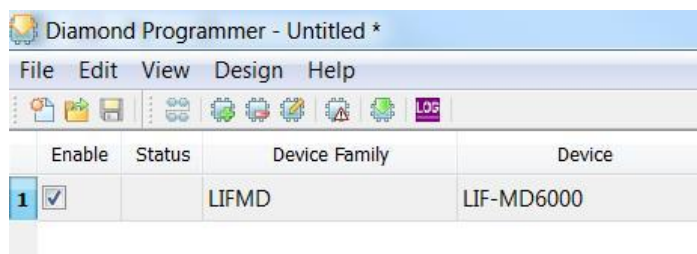

Figure 4.1. Select Device
2. Select **LIFMD** for **Device Family** and **LIF-MD6000** for **Device** as shown in Figure 4.1.